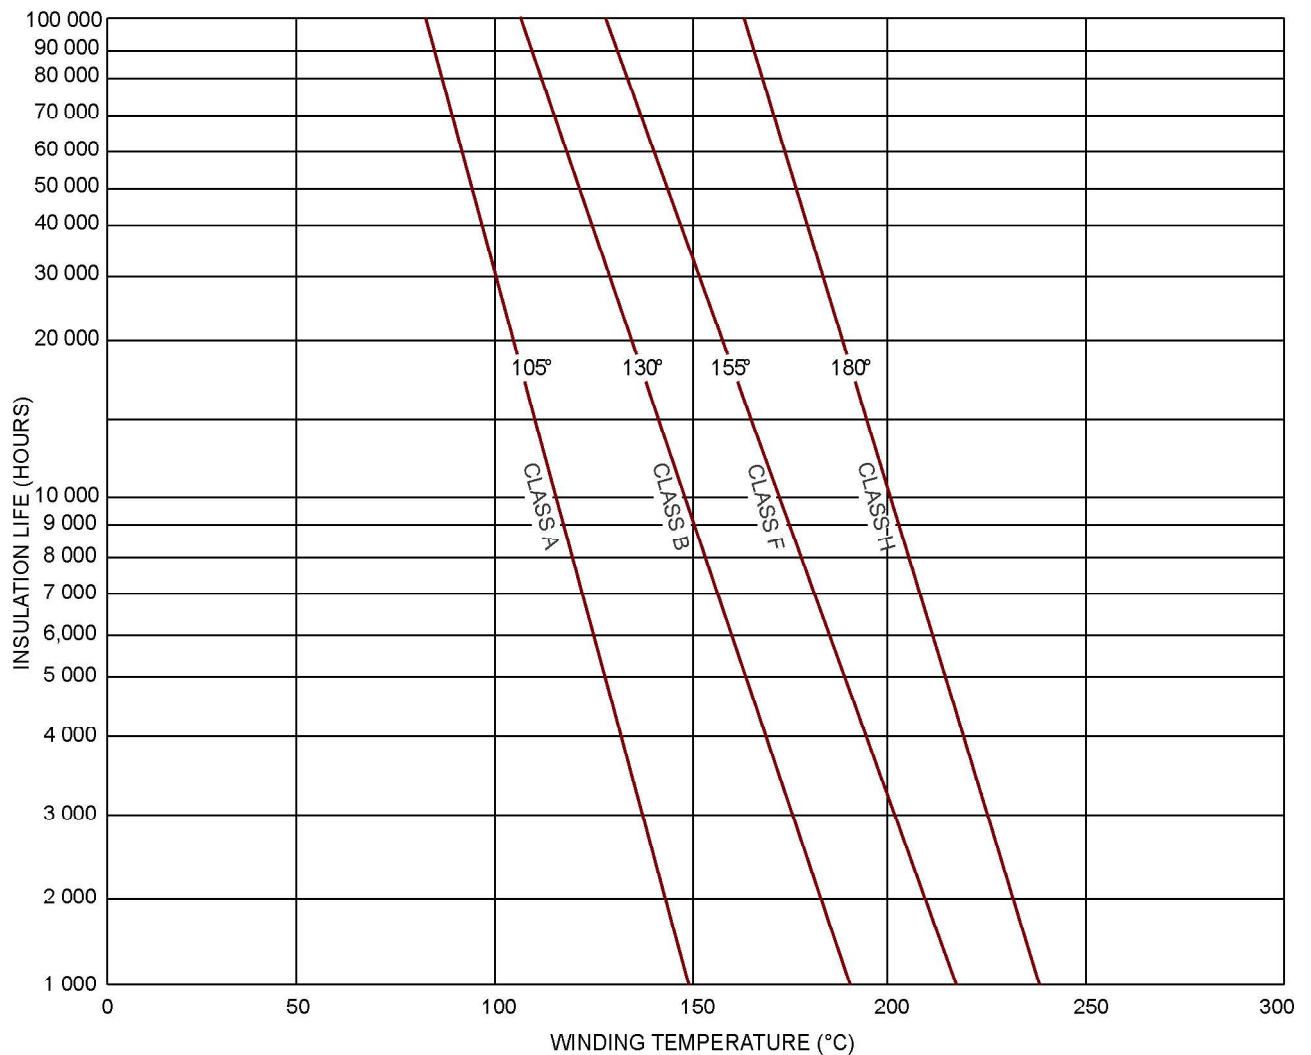

Figure 2-3. Insulation life and winding operating temperature.
- L. **Insulation class:** The type of insulation used in a motor is chosen depending on the expected operating temperature. Figure 2-3 shows the estimated life of different insulation classes, rated with letters. The higher the class letter, the more rugged the insulation.